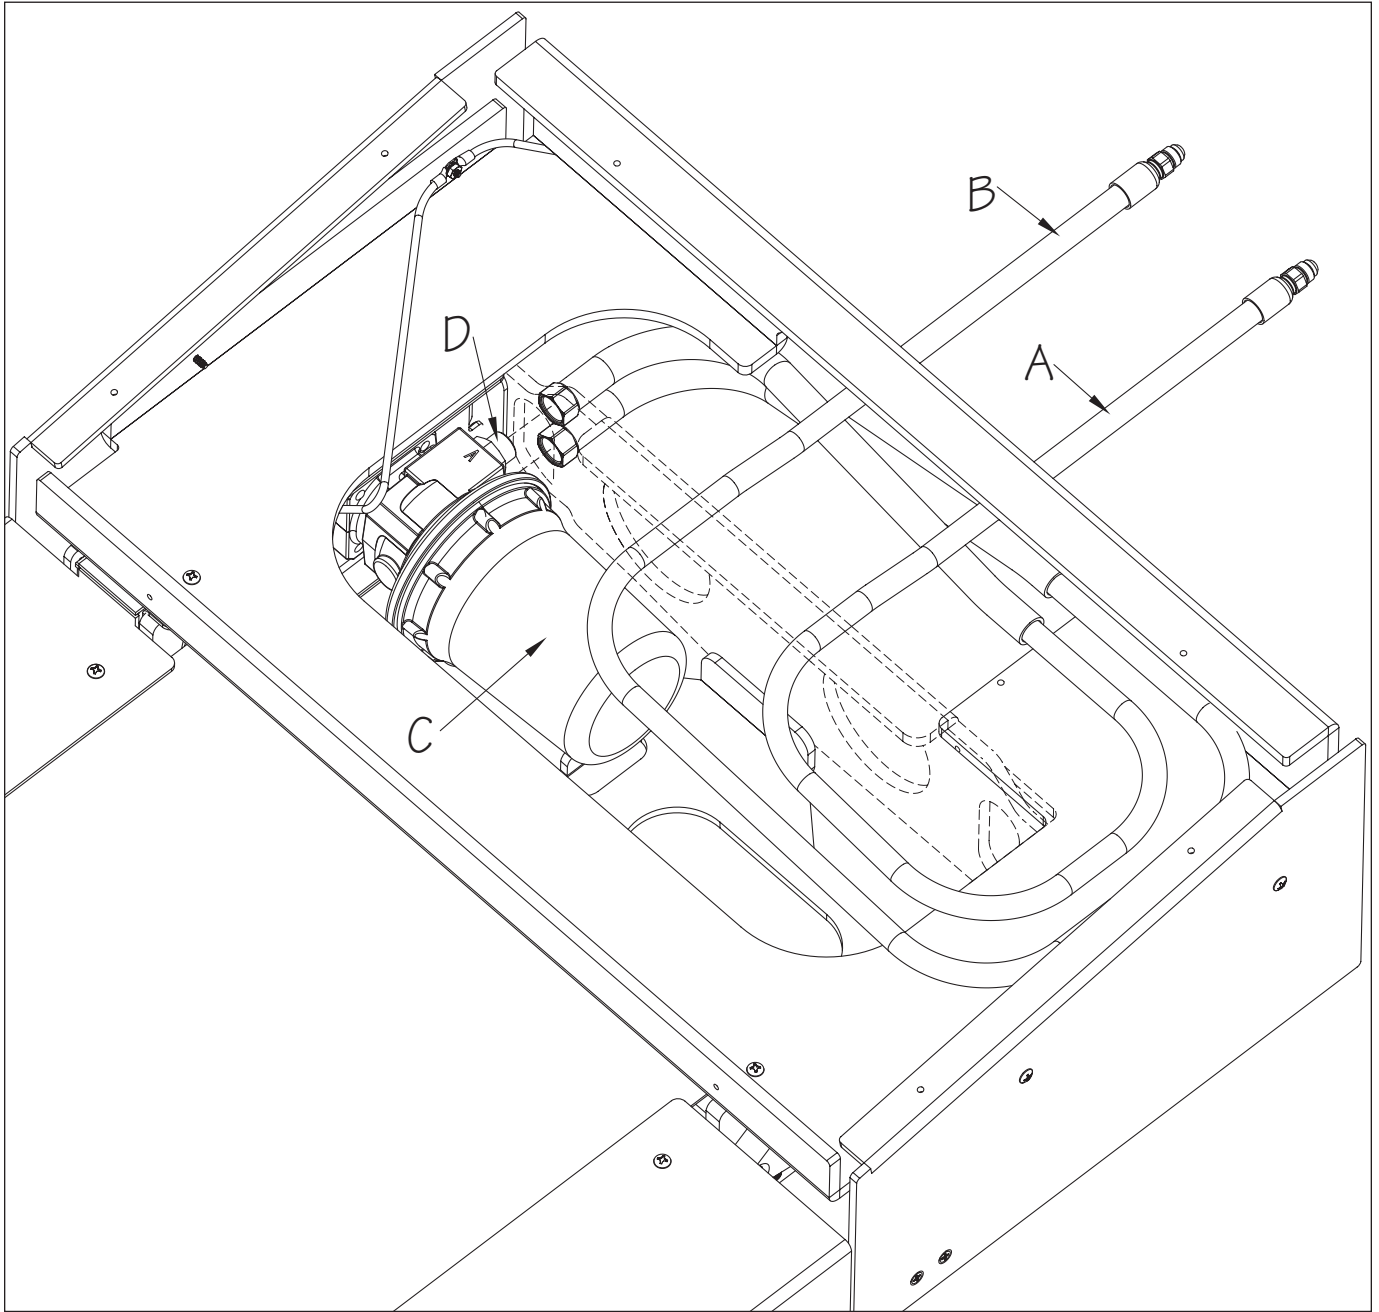

Fig. 9
7. The next step is attaching the Submersible Hydraulic Hoses (A) and (B) to the Hydraulic Motor (C). Remove the cap from each motor fitting (D) and verify the o-ring is properly seated. Attach the hose with red electrical tape wrapped around it to the fitting marked "A." This represents the Low-Pressure side of the motor. Attach the second hose to the other fitting on the motor (High-Pressure). Coil the hoses within the cavity of the End Standoff as shown (Fig. 9).